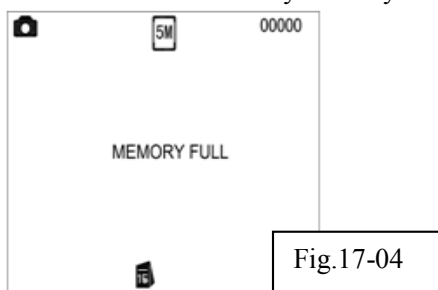

Fig.17-04
4. Fig17-04, “MEMORU FULL” indicates that the memory of LCD microscope head is full. Due to the built-in memory of the LCD microscope head is very small, it can be stored on piece photo . Please insert SD card firstly before your snap.